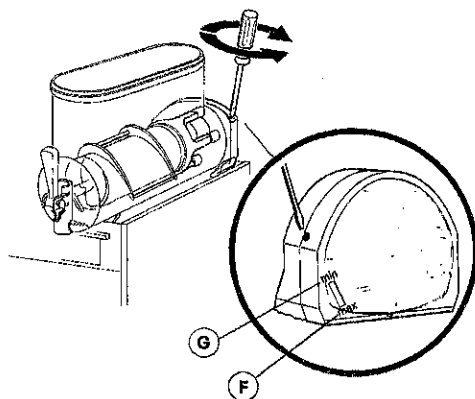

figure 3
With reference to figure 3 dispenser controls functions are as follows:
- 1 - **Granita viscosity adjustment:** proper Granita viscosity is factory preset. To change the viscosity, if needed, use a standard screwdriver to turn the adjustment screw located in the rear wall of each container as follows (see figure 3):